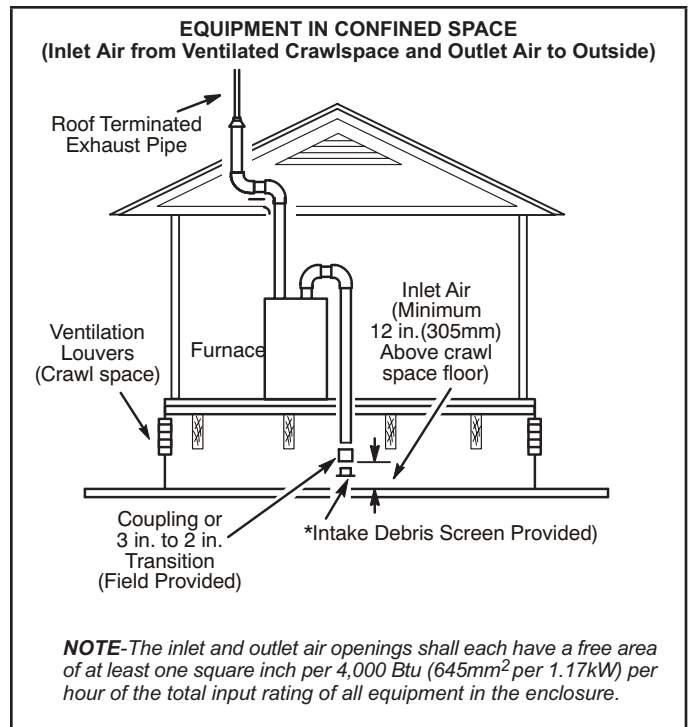

FIGURE 28
- 2 - If intake air is drawn from a ventilated crawlspace (FIGURE 28) or ventilated attic (FIGURE 29) the exhaust vent length must not exceed those listed in TABLE 19. If 3" diameter pipe is used, reduce to 2" diameter pipe to accommodate the debris screen.